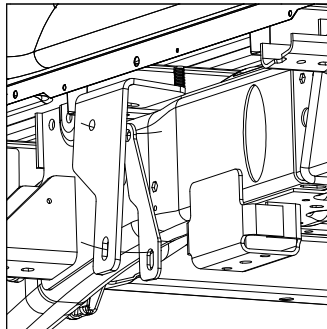
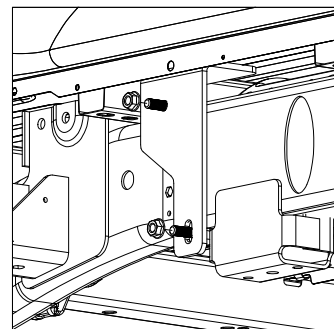

Figure C4: View looking at outside of driver side frame.
Figure C5: View looking at outside of driver side frame.
5. **Install front brackets.** Locate the driver side front bracket, a U-bolt, a stiffening plate, and two flange nuts. Move any wiring on the frame so it will not interfere with the bracket. Position the bracket behind the cross member under the installation location of the forward mounting rail. Maneuver the bracket so that the 1/2" carriage bolt passes through the slot at the top of the bracket as shown in Figure C4. While holding the bracket flat against the outside of the frame pass the U-bolt over the frame and through the bracket and stiffening plate. Secure with two 1/2" flange nuts, see Figure C5. Repeat for passenger side. The passenger side does not use a stiffening plate. Hand tighten each nut.